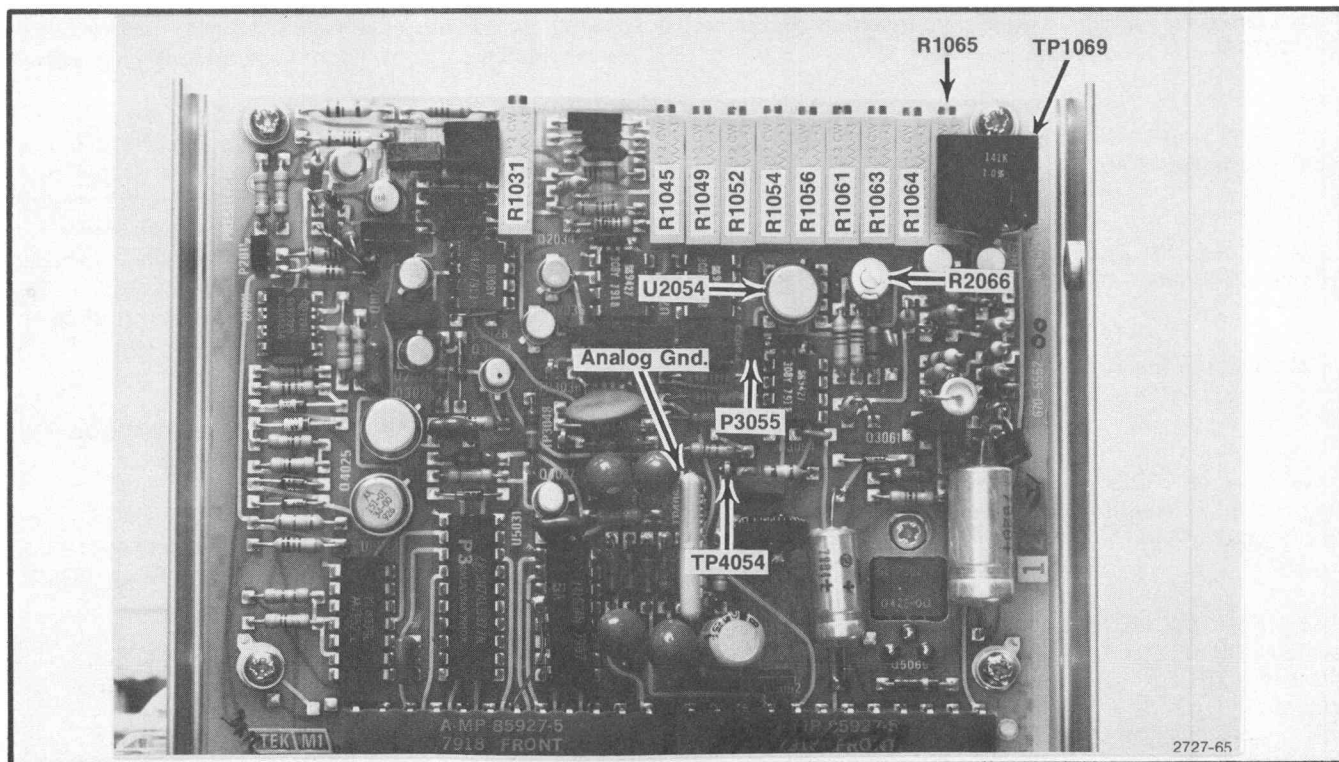

Fig. 3-52. Preselector Driver adjustments and test points.
2. Pull P3055 and connect a voltmeter between TP4054 and analog ground (Fig. 3-52). Voltmeter range should indicate 30 μ V or less.
3. Adjust Driver Offset R2066 (Fig. 3-52) for 0V.
d. Apply the CAL OUT signal to the RF INPUT. Set the REF LEVEL to -30dBm, FREQ SPAN/DIV to 20MHz and activate AUTO RESOLUTION. Select the 1.7 to 5.5 GHz FREQUENCY RANGE and adjust the FREQUENCY to center the 2.1 GHz marker. Center Input Offset adjustment R1031 (Fig. 3-52), press DEGAUSS button, and then center the 2.1 GHz marker on screen with the FREQUENCY control.
e. Ground TP1069 (Fig. 3-52) with a jumper strap and adjust the Preselector Offset (R1064) for maximum response of the 2.1 GHz signal. Remove the grounding strap and press DEGAUSS button.
f. Peak the 2.1 GHz signal with the -829 MHz IF Offset, R1049 (Fig. 3-52).
m. Increase FREQUENCY to the 12 GHz marker, press DEGAUSS, then peak the 12 GHz point with Shaper #1 (R1054) adjustment (Fig. 3-52).
- t. Adjust -829 MHz IF Offset, R1049 (Fig. 3-52), to peak the 3.5 GHz response.